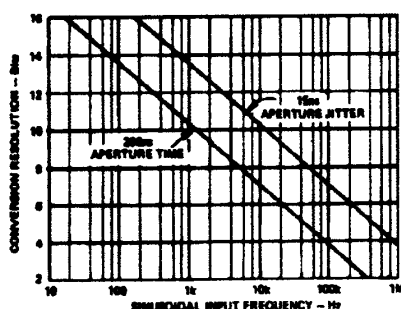

Figure 5. Maximum Frequency of Input Signal for %LSB Sampling Accuracy
**Aperture Delay** is the time required after the "hold" command until the switch is fully open and produces a delay in the effective sample timing. Figure 5 is a plot giving the maximum frequency at which the AD582 can sample an input with a given accuracy (lower curve).
**Aperture Jitter** is the uncertainty in Aperture Time. The Aperture Time can be eliminated by advancing the sample-to-hold command 200ns with respect to the input signal. The Aperture Jitter now determines the maximum sampling frequency (upper curve of Figure 5).